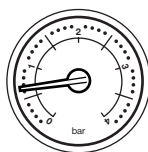

Fig. 14
2. With the system cold and the boiler not operating the pressure should be between 0.5 and 1.0 bar. During operation the pressure should not exceed 2.5 bar, and will normally be between 1.0 and 2.0 (Figs. 14 & 15).